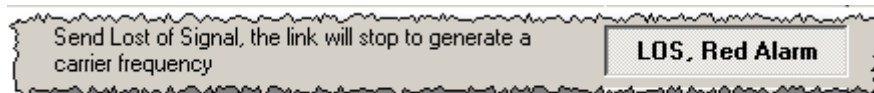

Figure 235
**Send Lost of Signal (LOS)** – to stop the generation of the carrier frequency for the link click on the “LOS, Red Alarm” button (Figure 235).